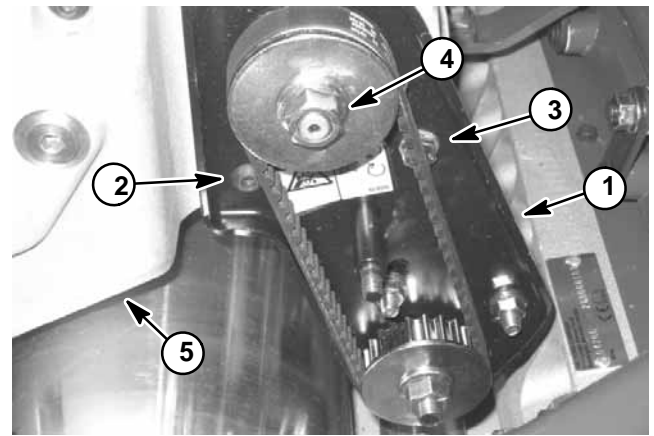

Figure 22
2. Remove reel drive assembly from gearbox (Fig. 22):
D. Pull drive shaft plate from gearbox after removing three (3) fasteners: two socket head screws and one cap screw with lock washer.
5. Remove four (4) remaining socket head screws and flat washers that secure gearbox cover to base.
16. Install reel drive assembly to the gearbox (Fig. 22):